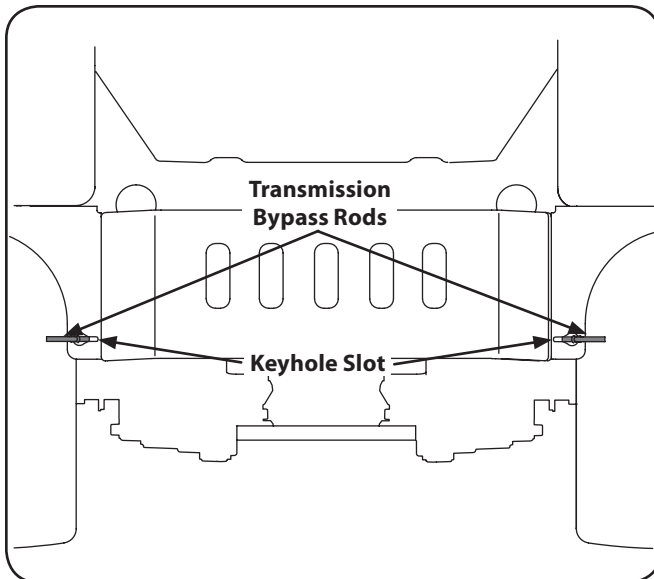

Figure 3-1
4. Engage the transmission bypass rods on each side of the tractor; then carefully roll the tractor off the shipping pallet. The transmission bypass rods (one for each the RH and LH transmission) are located on the rear of the tractor, just inside each rear wheel. Disengage the bypass rods. See Figure 3-1.